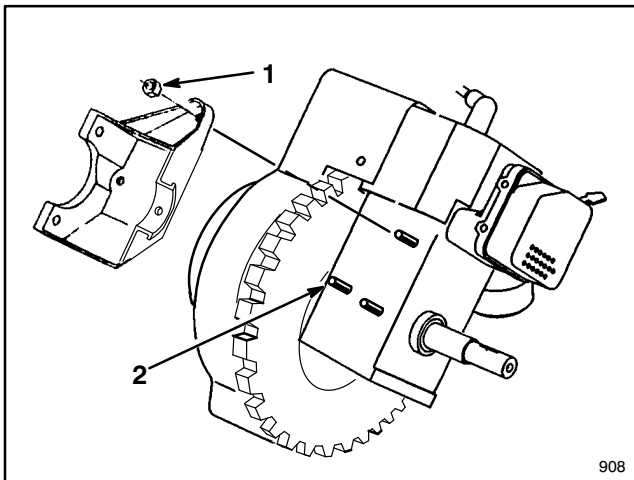

Figure 6
3. Screw (2)
6. Remove (3) three fasteners securing motor mounting bracket to engine.
- A** If bracket was secured to engine with studs and nuts (Fig. 6), remove (3) three nuts and bracket. Then remove right hand stud (nearest to flywheel) (Fig. 6) using a vise grip.